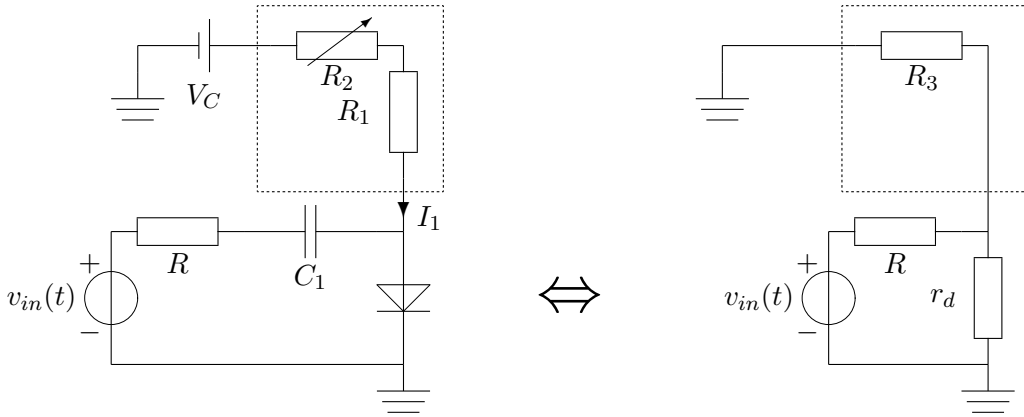

Figure 8: Interpreting the circuit for measuring the dynamic resistance of a diode.
- Let R_3 the total resistance of R_1 and R_2 (see the dashed box in Fig. 8). Find R_3 from V_3 and I_1 .